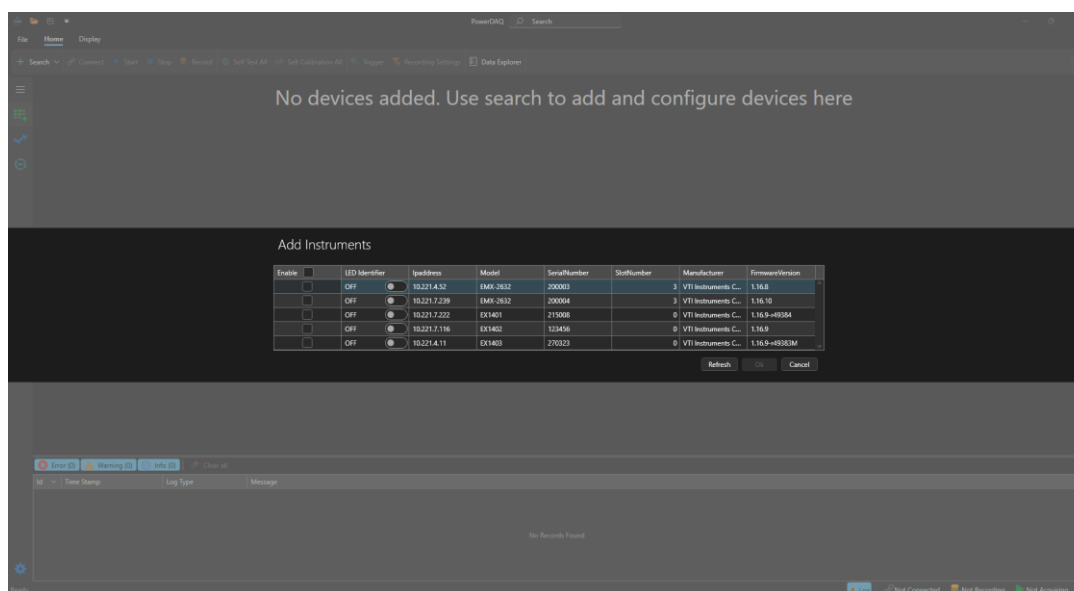

Figure 17. Auto Search Results
- A list of devices found from running Auto Search will be displayed as shown in Figure 17.